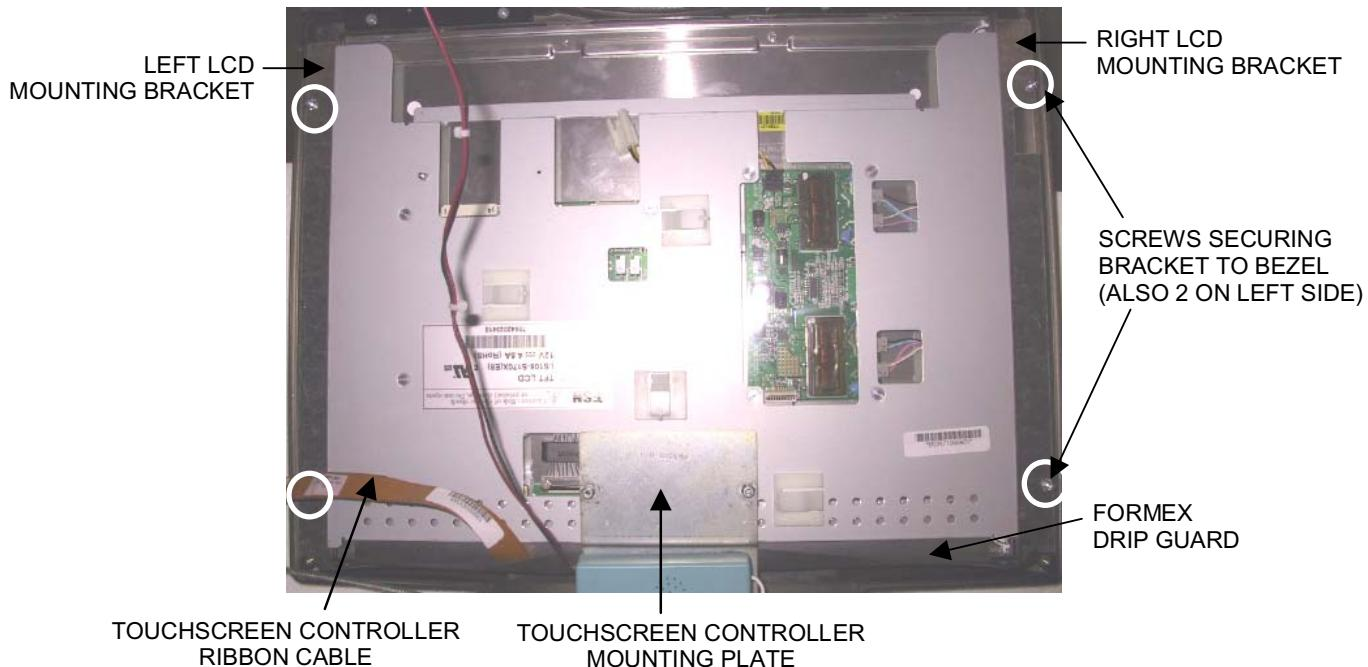

FIGURE 8 - REAR VIEW OF 17" MONITOR
13. Remove the 4 screws securing either the left and right LCD mounting brackets to the bezel (17") or the LCD bracket to the bezel (19" and Widescreen), then carefully slide the monitor assembly out of the bezel. See Figure 8 for 17" games, Figure 9 for 19" and Widescreen games.
14. For 17" games: Remove the 4 screws securing the LCD mounting brackets to the monitor (2 per bracket). If replacing the monitor, remove the fish paper/foam tape strip attached to the top edge of the monitor. See Figure 8.
2. *If replacing only the monitor:* Carefully place the touchscreen over the new monitor in the same manner it was attached to the old monitor, making sure that the screen is properly and evenly aligned over the monitor glass. Clean the front of the touchscreen with an alcohol wipe once it is in place. Reattach the fish paper foam tape strip to the top edge of the monitor (17" games only; see Figure 8). You may need to attach the provided wire clamps to the rear of the monitor assembly. If so, note their location on the rear of the monitor you removed.